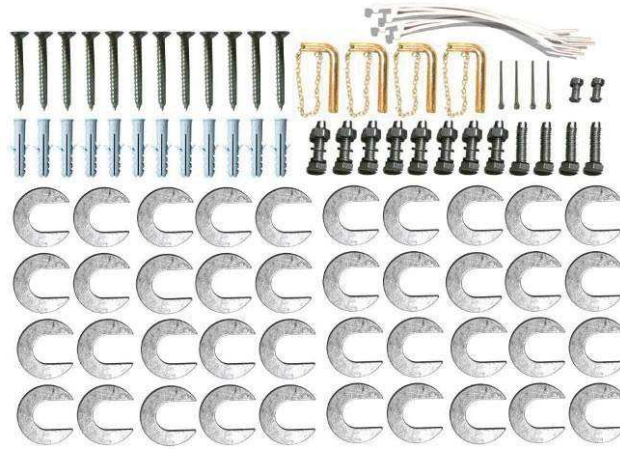

Fig. 11
4.1 Parts bag for on surface installation (**See Fig. 11**)